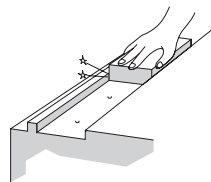

Fig.2 Checking the Mounting Surface
- (1) Be sure to remove burr, dent and dust from the mounting surface of the machine to which the LM Guide is to be mounted before installing the LM Guide. (Fig.2)